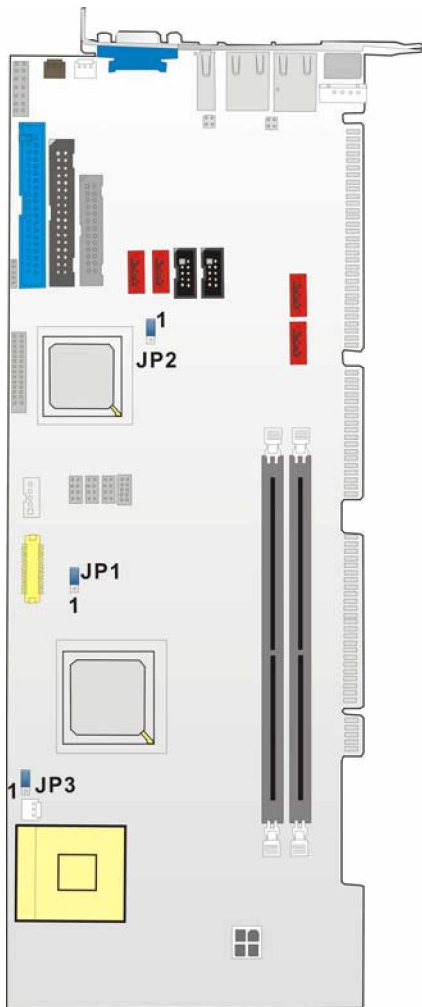

Figure 3-23: Jumper Locations
Jumper Location:	See Figure 3-23
- Jumper Location:** See Figure 3-23